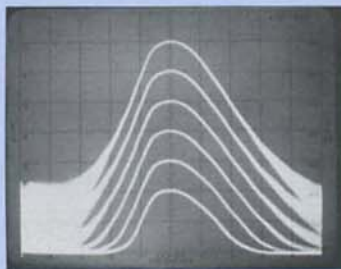

Figure 23. Signal amplitude changes as LOG REF LEVEL is stepped.
- e) Step the LOG REF LEVEL counterclockwise. The signal amplitude should decrease in exactly 10 dB steps. Adjust the VERTICAL GAIN until the signal increments are as close to 10 dB steps as possible. See Figure 23. **RETURN LOG REF VERNIER TO 0** and LOG REF to −10 dBm.